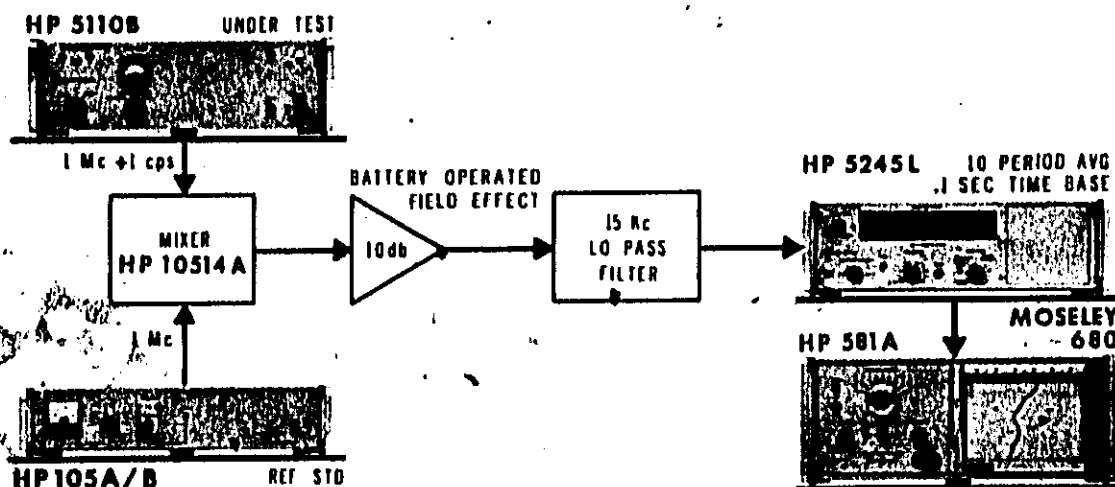

Figure 5-3. Test Setup - Stability Measurements
Measure the stability of the internal standard using the circuit in Figure 5-3 and the following procedure:
1. Connect the 5110B to a variable voltage power line source. Using the circuit of Figure 5-3 and with the column selector of the digital to analog recorder set to columns 3, 4, and 5 make a plot with the line voltage at 115v rms (full scale is 10 parts in  $10^{10}$ ). Lower the line voltage 10% to 103v rms and make a second plot. Set the line voltage to 10% above normal line (127 v rms), and make a third plot.
<p>6. INTERNAL FREQUENCY STANDARD: PHASE LOCKING CAPABILITY - A voltage control allows 5 parts in <math>10^8</math> frequency control for -5 to +5 volts applied externally (J2 on rear panel).</p> <ol style="list-style-type: none"> <li>1. Connect an <math>\phi</math> 721A Variable Power Supply to rear BNC connector J2.</li> <li>2. Use circuit of Figure 5-3 with the digital to analog column selector set to columns 5, 6, and 7 (full scale is 10 parts in <math>10^8</math>).</li> <li>3. Make a reference plot with the power supply set to 0 volts.</li> <li>4. Set the power supply voltage to -5 volts and make a second plot.</li> <li>5. Set the power supply voltage to +5 volts and make a third plot.</li> <li>6. Note that the frequency has changed at least 5 parts in <math>10^8</math> between the 2nd &amp; 3rd plots.</li> </ol>